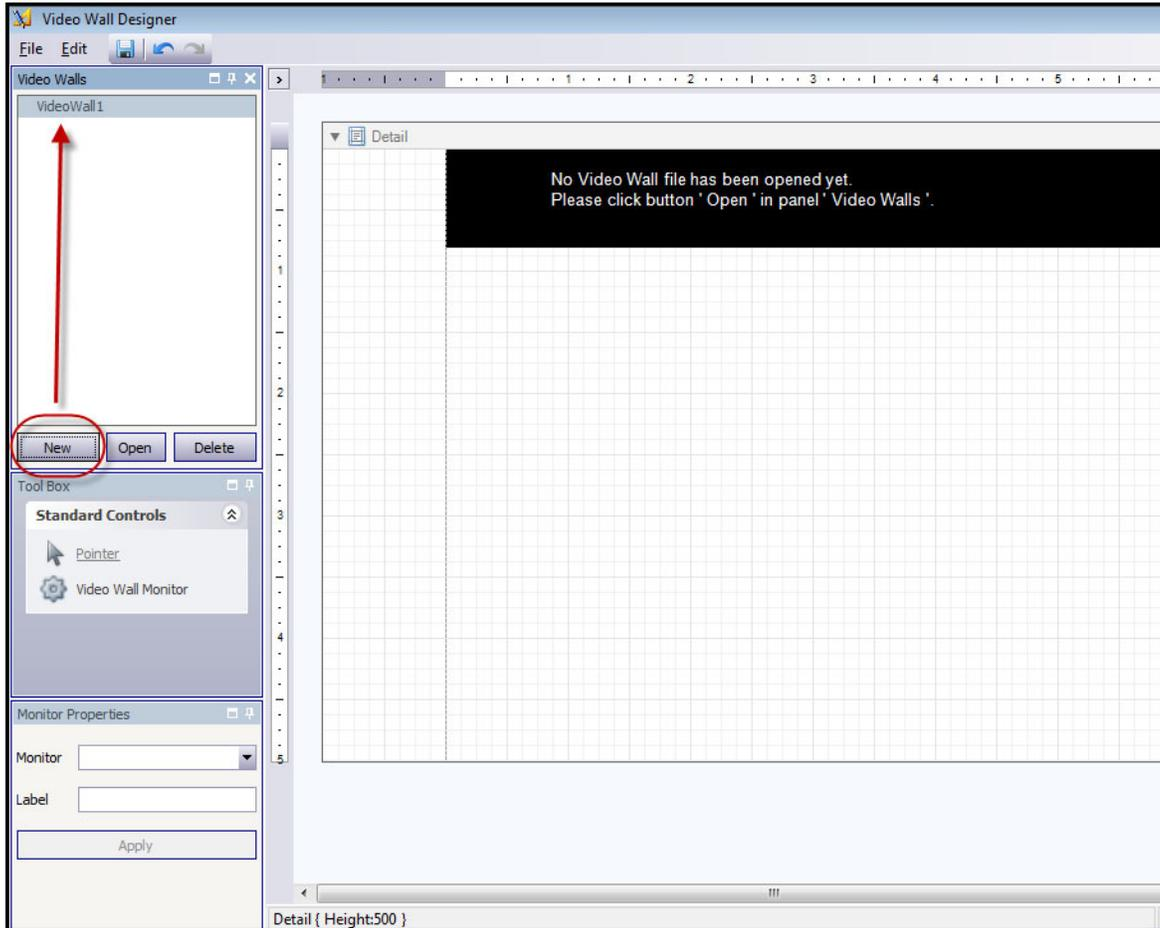

Figure 43. Video Wall Designer
4. From the **File** menu, select **Design Video Wall**. The **Video Wall Designer** opens (Figure 43).